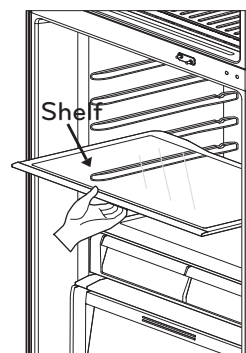

Fig. 11
4. Slide it towards outside Fig. 11.